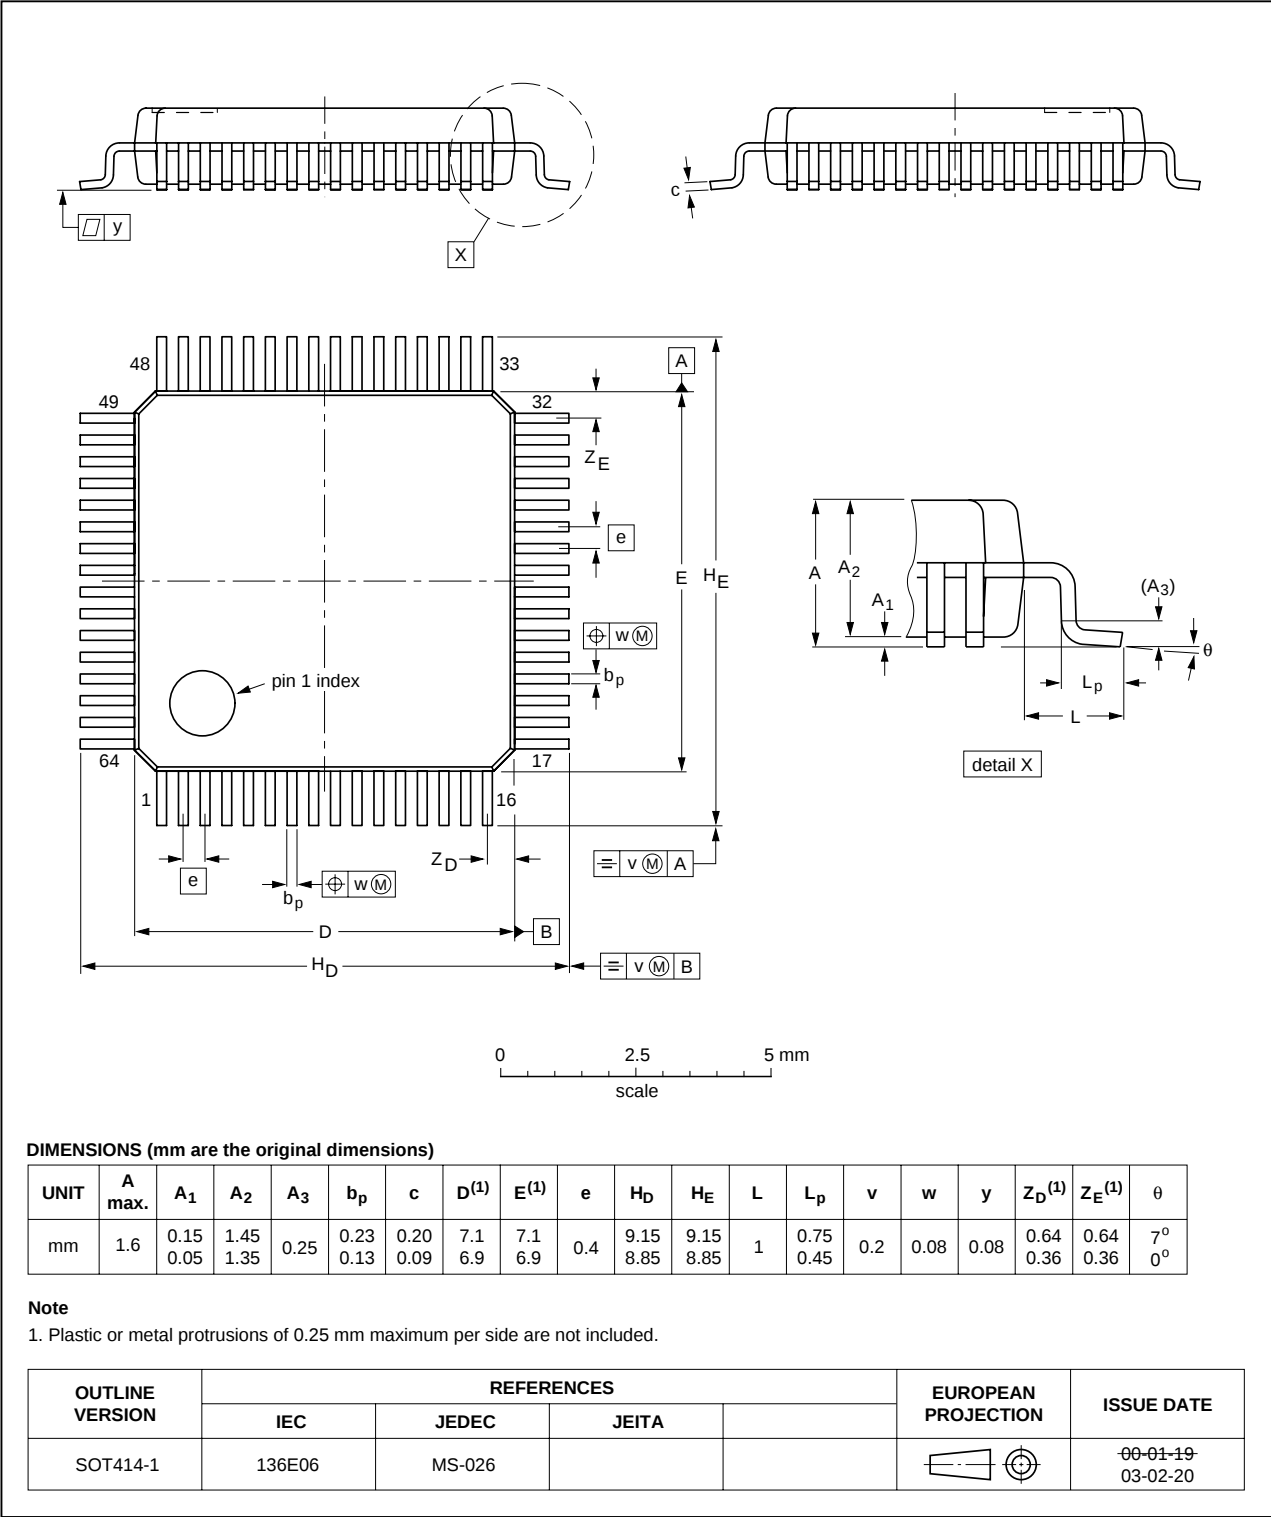
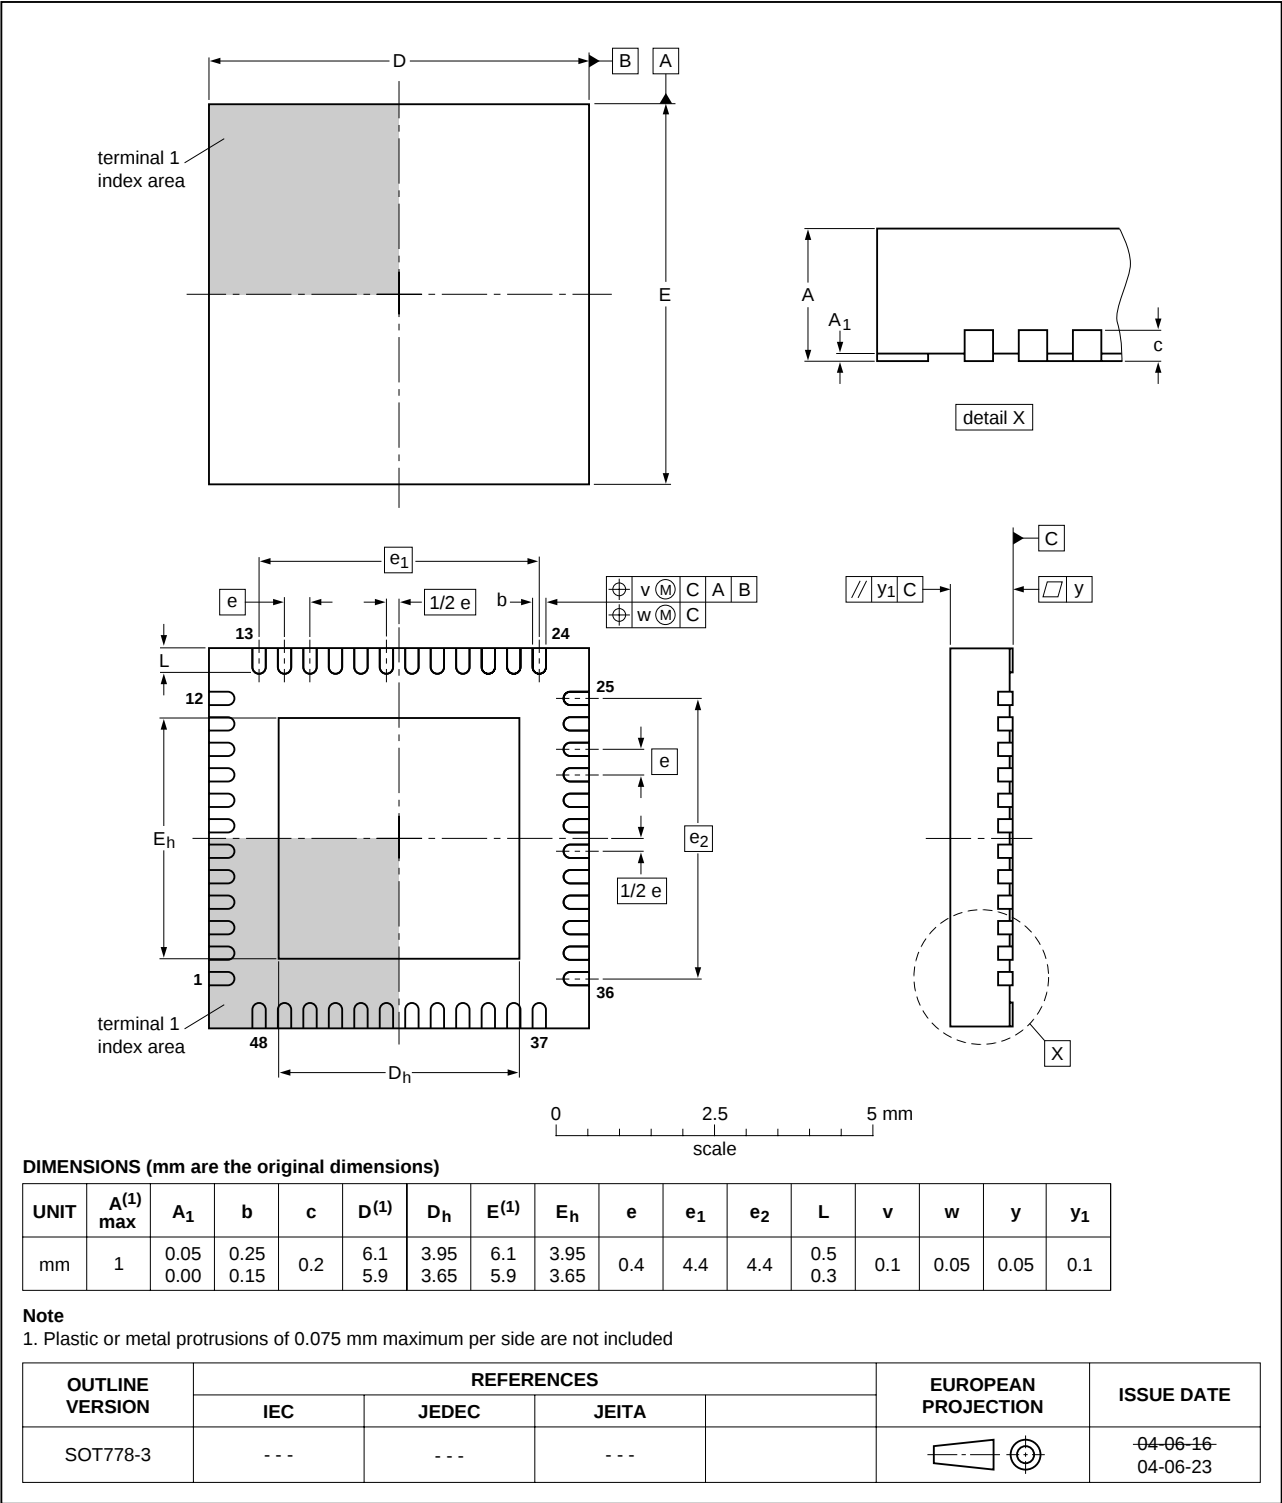
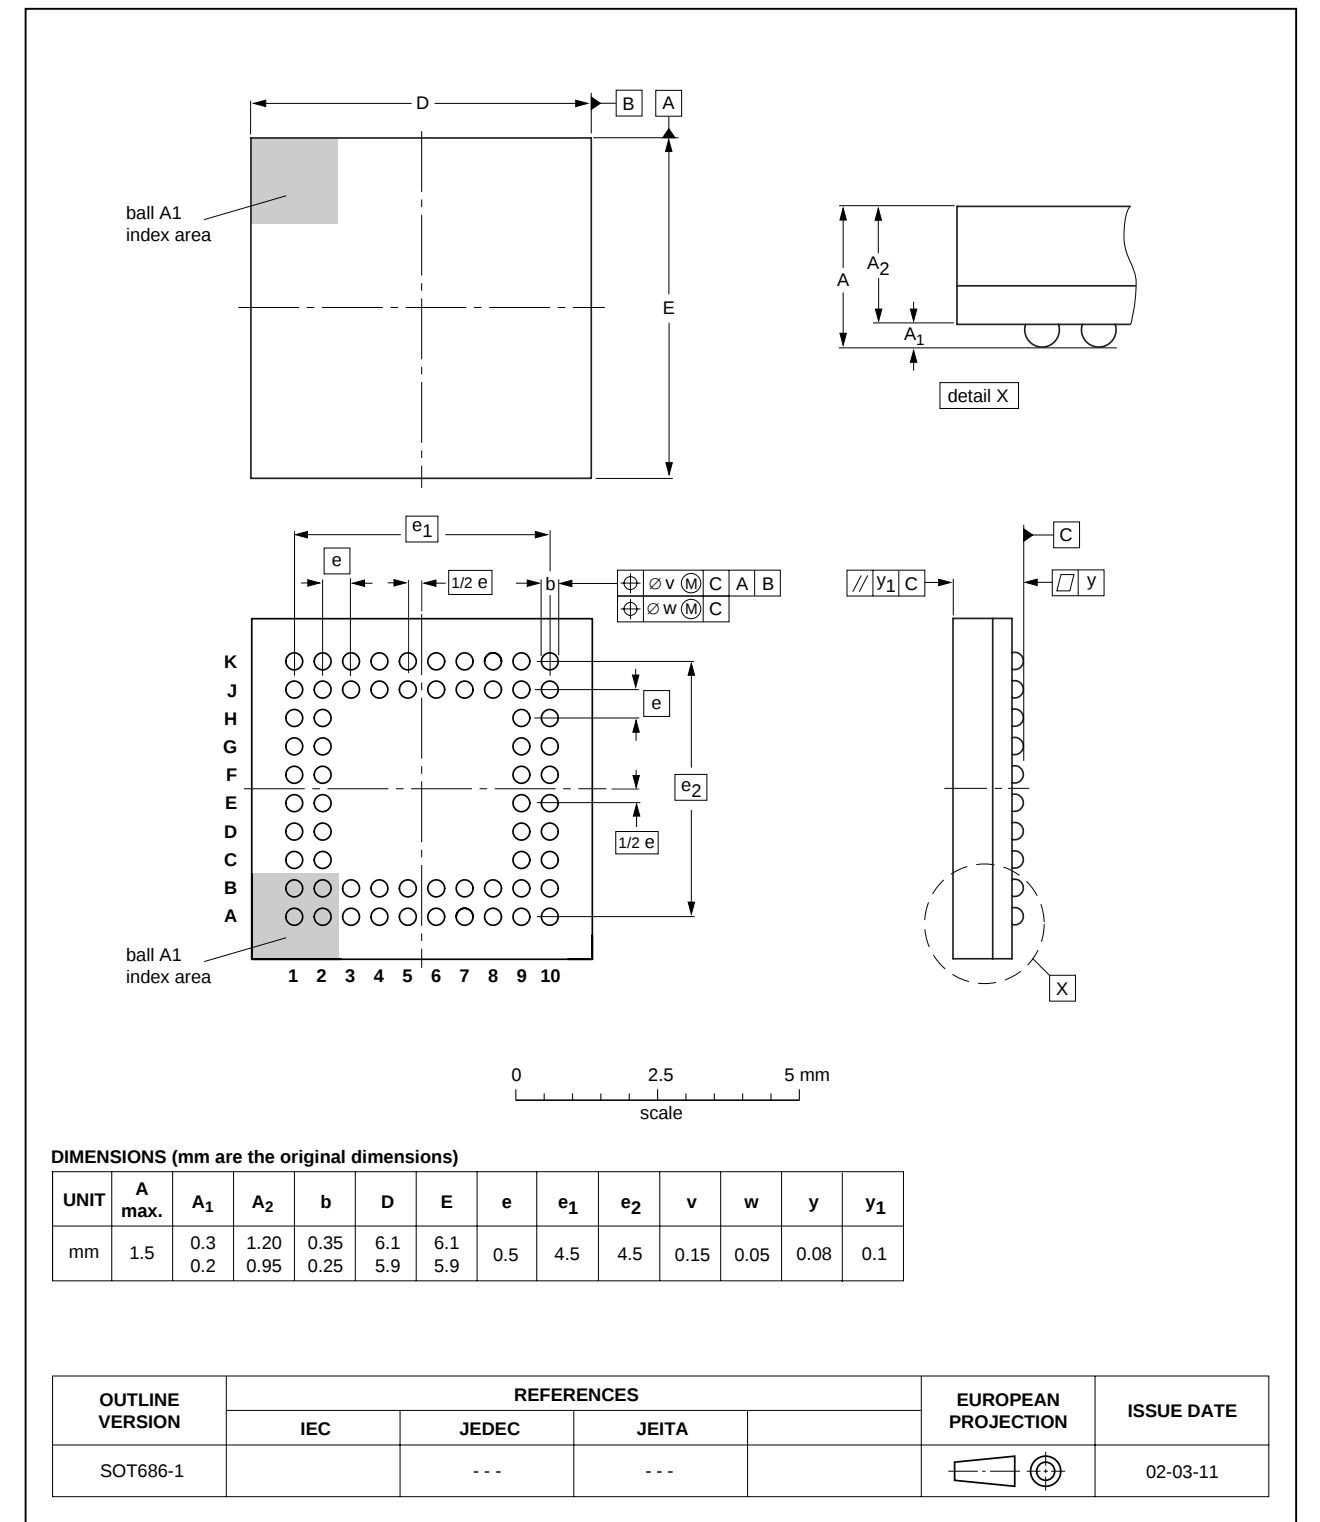

Fig 29. Package outline SOT414-1 (LQFP64)
Fig 30. Package outline SOT778-3 (HVQFN48)
Fig 31. Package outline SOT686-1 (LFBGA64)
• Section 1 “General description”: – 2nd paragraph: added 6th sentence. – 3rd paragraph: added HVQFN48 and LFBGA64 package options, and added second sentence. • Table 1 “Ordering information”: added HVQFN48, LFBGA64, and LQFP64 (SOT414-1) package options. • Figure 5 “Pin configuration for LQFP64”: added SC16C654BIBM option • Added Figure 6 “Pin configuration for HVQFN48 (16 mode)”, Figure 7 “Pin configuration for HVQFN48 (68 mode)”, Figure 8 “Pin configuration for LFBGA64” and Figure 9 “Ball mapping for LFBGA64”. • Table 2 “Pin description”: added columns for HVQFN48 and LFBGA64 package types • moved Section 6.1.1 “The 16 mode interface” (was Section 6.2) and Section 6.1.2 “The 68 mode interface” (was Section 6.3) to be sub-sections of Section 6.1 “Interface options” • Section 6.4 “Hardware flow control”: added ‘Remark’ following second paragraph. • Section 6.10 “DMA operation”: added ‘Remark’ following first paragraph. • Table 8 “SC16C654B/654DB internal registers”: added (new) Table note 4 and its reference at FCR[3]. • Table 27 “Static characteristics”: – descriptive line following title: changed ‘V_{CC} = 2.5 V, 3.3 V or 5.0 V ± 10 %,’ to ‘tolerance of V_{CC} ± 10 %;’ – added ‘V_{CC} = ‘ to the limits’ column headings • Table 28 “Dynamic characteristics”: – descriptive line following title: changed ‘V_{CC} = 2.5 V, 3.3 V or 5.0 V ± 10 %,’ to ‘tolerance of V_{CC} ± 10 %;’ – added ‘V_{CC} = ‘ to the limits’ column headings – baud rate divisor Max. columns: changed ‘2¹⁶ – 1 T_{RCLK}’ to ‘(2¹⁶ – 1)’; deleted ‘ns’ from Unit column (N is a number). • Section 11 “Package outline”: added Figure 29 “Package outline SOT414-1 (LQFP64)”, Figure 30 “Package outline SOT778-3 (HVQFN48)”, and Figure 31 “Package outline SOT686-1 (LFBGA64)”. • Added Section 13 “Abbreviations” on page 55 • Section 18 “Trademarks” re-written.